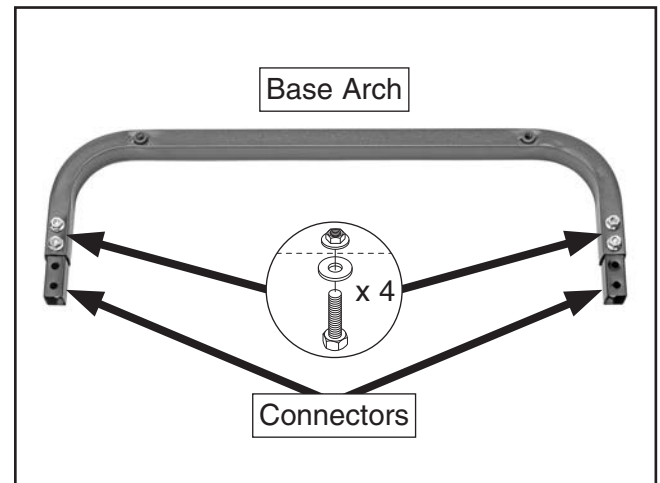

Figure 3. Connectors in base arch fastened in place.
2. Align two holes in each connector with two holes in base arch (see **Figure 3**) and secure with (4) $\frac{5}{16}$ "-18 x $1\frac{1}{4}$ " hex bolts, $\frac{5}{16}$ " flat washers, and $\frac{5}{16}$ "-18 flange nuts. Only hand-tighten for now.